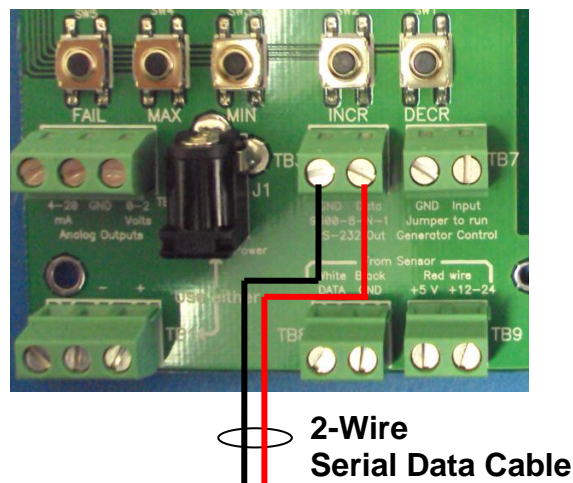

Fig. 1. Connect Serial Data Cable to the instrument
- Connect the Serial Data Cable to the instrument by attaching the ground wire (black) to the instrument connector labeled GND and the data wire (red) to the instrument connector labeled DATA, as indicated in Fig. 1.